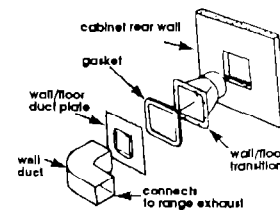

Figure 2
The length of the ductwork and number of elbows should be kept to a minimum to provide efficient performance. The size of the ductwork should be uniform. Do Not install two elbows together. Use duct tape to seal all joints in the duct system. Use caulking to seal exterior wall or floor opening around cap. Figures 2 - 7 show common venting methods and types of materials needed.
**Use ductwork cutout dimensions shown in Figures 2 - 7.** If the ductwork cutout location falls over a joist or stud, a supporting frame must be constructed. Do Not cut joist or stud.